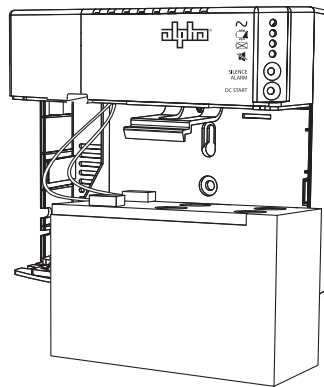

Fig. 2-5, Connecting the Battery Wires
3. Connect the battery wires to the battery terminals (see Fig. 2-5). The battery polarity clip ensures correct wire connections.